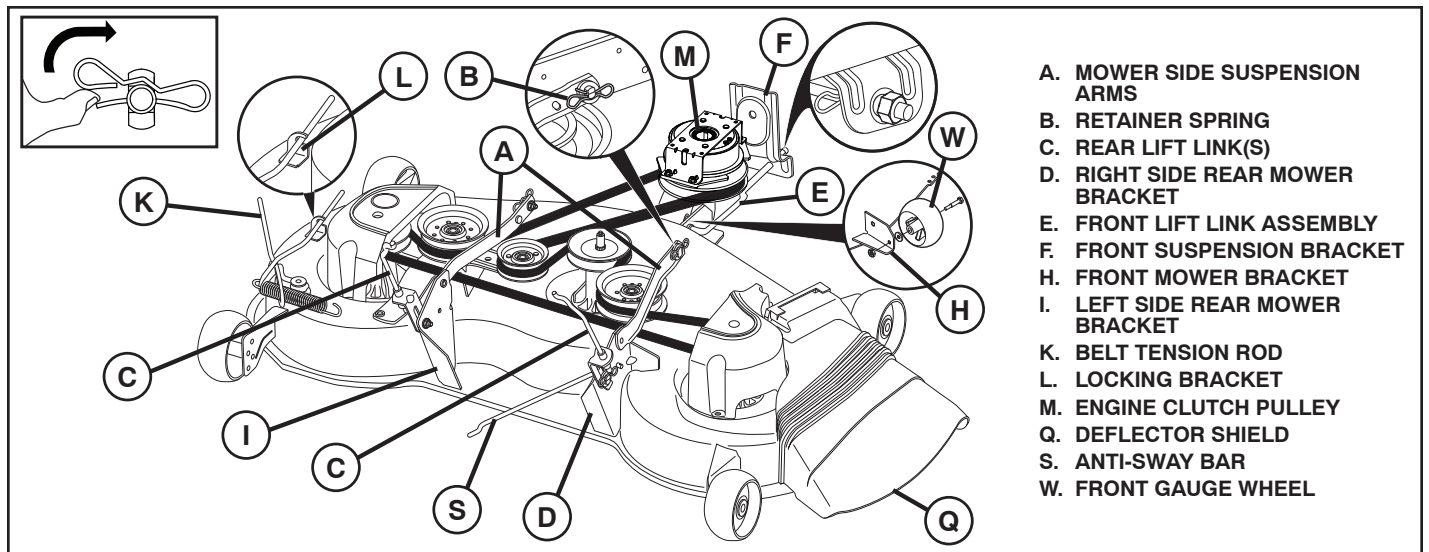

Fig. 21
TO REMOVE MOWER (See Fig. 21)
TO INSTALL MOWER (See Figs. 21 - 33)
9 INSTALL BELT ON ENGINE CLUTCH PULLEY (M) (See Fig. 21 & 33)
- Disengage belt tension rod (K) from locking bracket (L).
- Install belt onto engine clutch pulley (M).